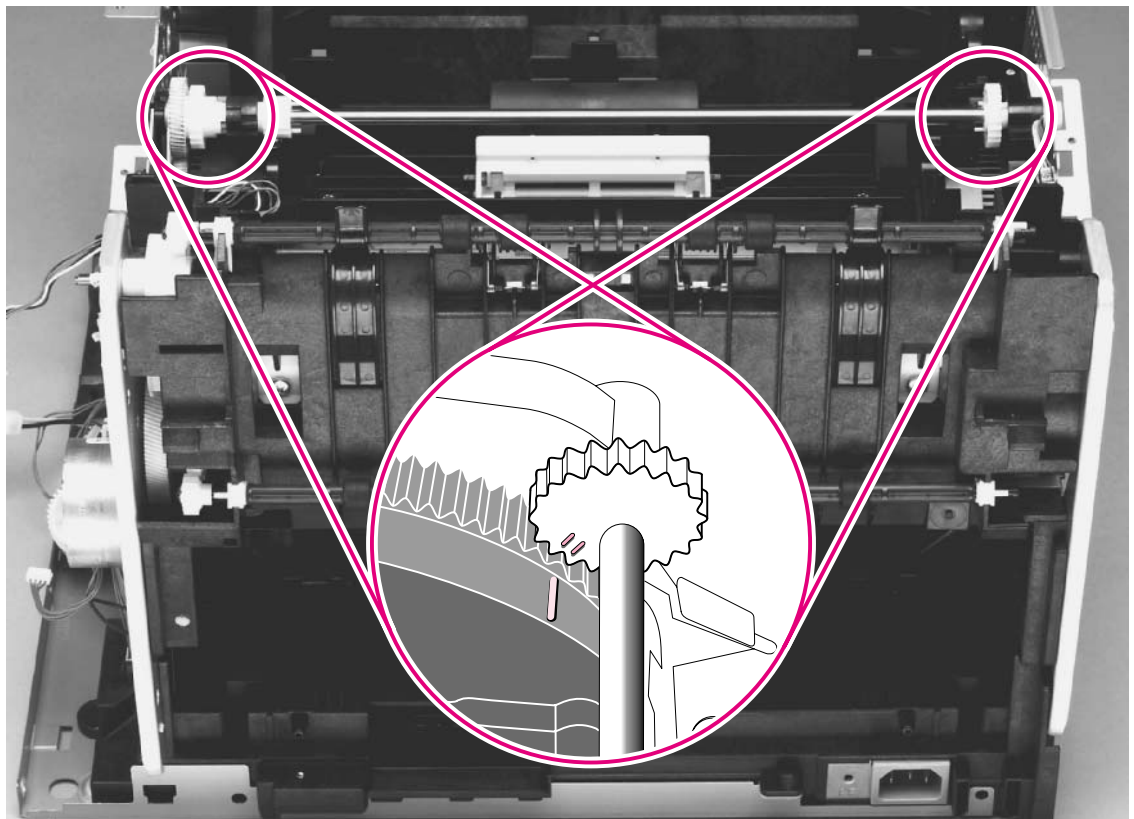

Figure 85.
- 2 Examine the gears: two marks on the smaller gear should line up with the single mark on the larger gear (see the detail of the gears in figure 85).